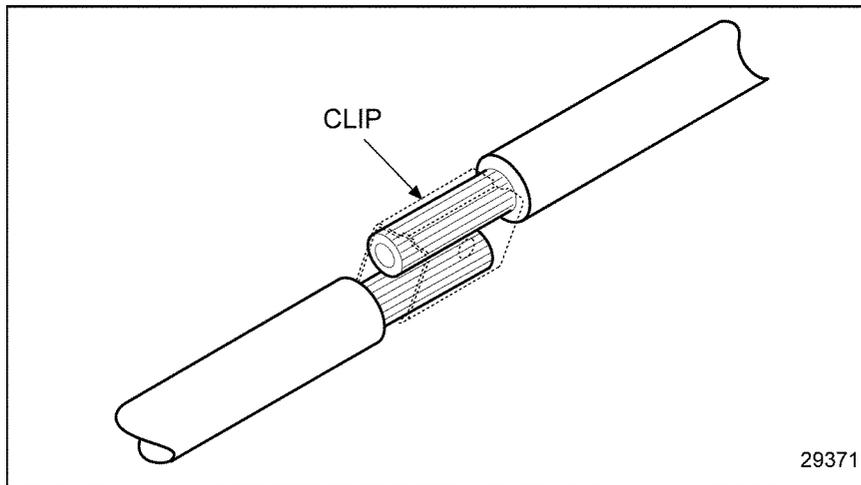

Figure 3-20 Securing the Leads With a Clip
2. Secure the leads with a commercially available clip and hand tool. See Figure 3-20.